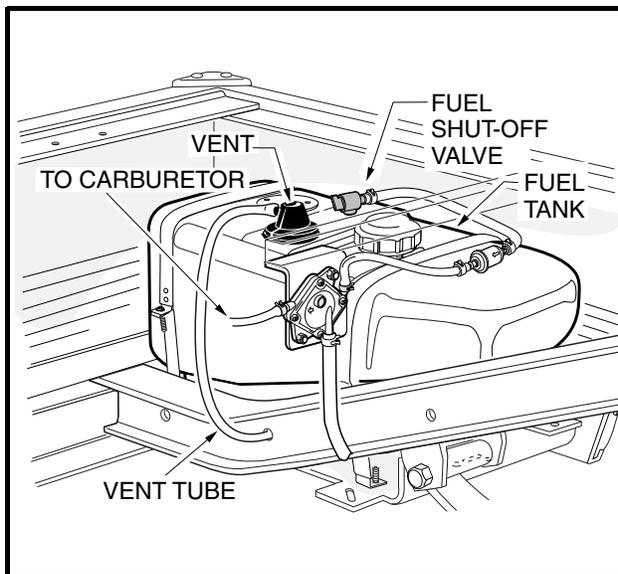
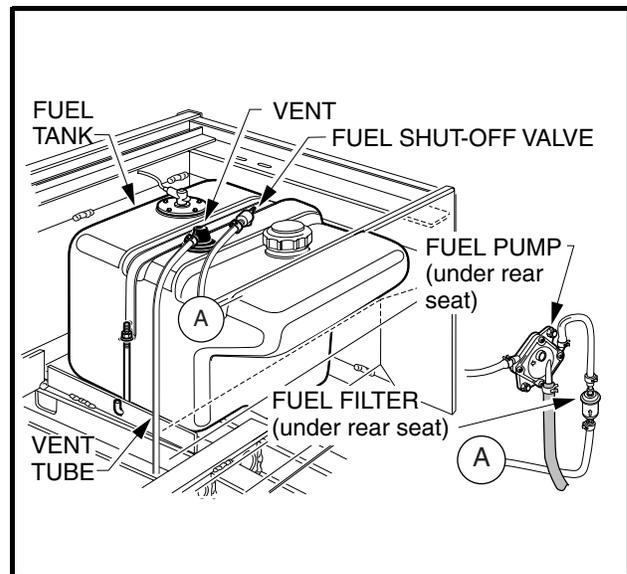

Figure 3-3 2100 Fuel Tank
Figure 3-4 2100S Fuel Tank
9. Disconnect vent tube from fuel tank vent (**Figure 3-3, Page 3-3 or Figure 3-4, Page 3-3**).
2. Remove plug from vent tube and connect to tank vent (**Figure 3-3, Page 3-3 or Figure 3-4, Page 3-3**).